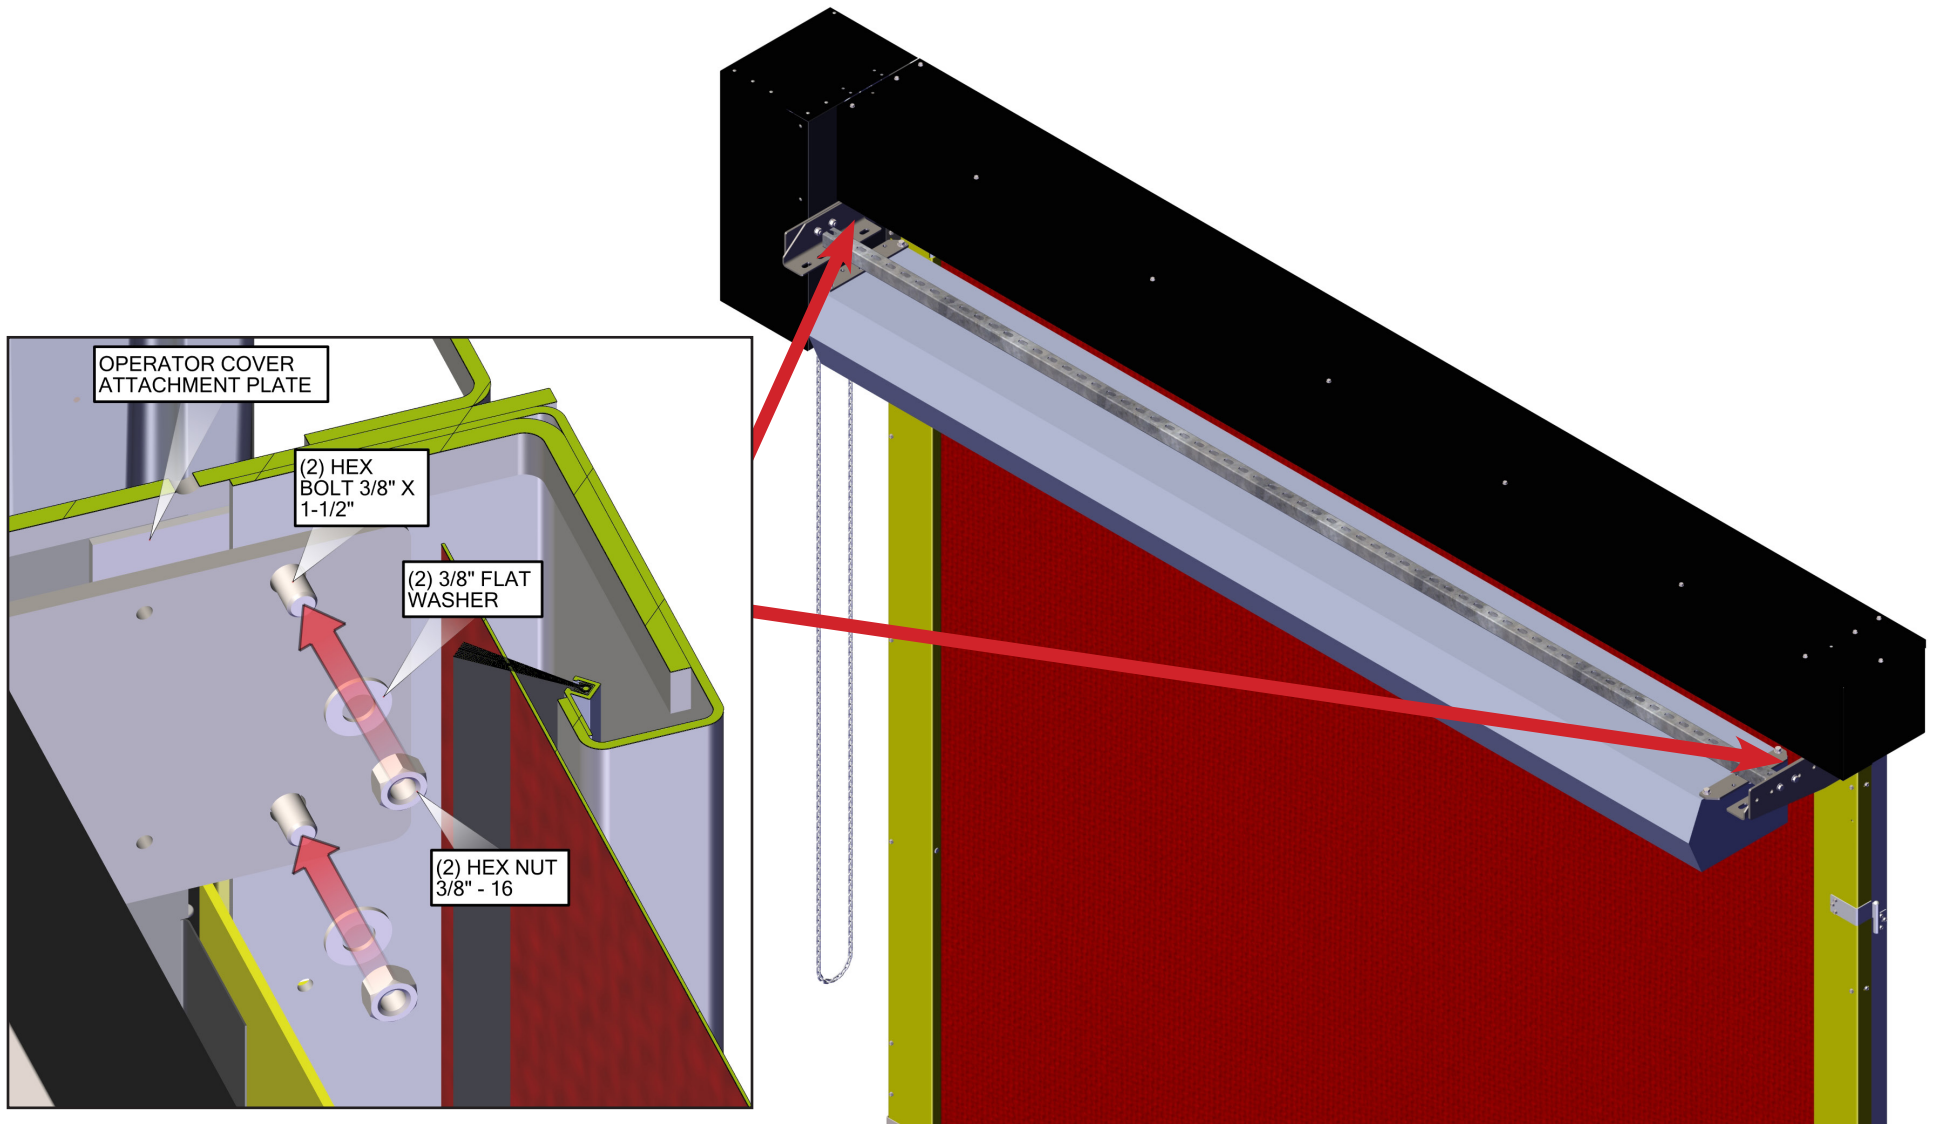

Figure 28
- Install the air curtain assembly to the door guides, see Figure 28.
1. MAIN COMPONENT OVERVIEW, FIGURES 28 AND 29.